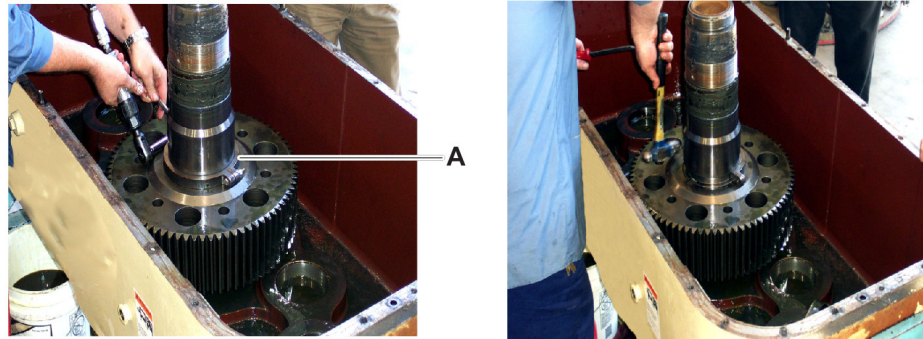

Figure 1
1. Remove the output gear collar (Figure 1, item A).